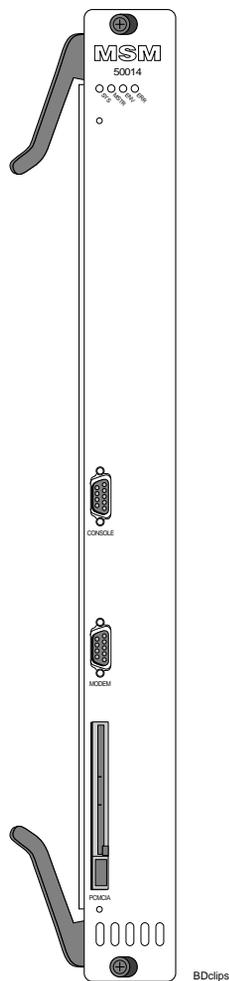

Figure 2-4: MSM with extended ejector/injector handles
- a Ensure that the MSM is right side up (printed circuit board, or PCB, to the right), the DIMM ejector locks are in the upright and locked position, and the ejector/injector handles are extended, as shown in Figure 2-4.